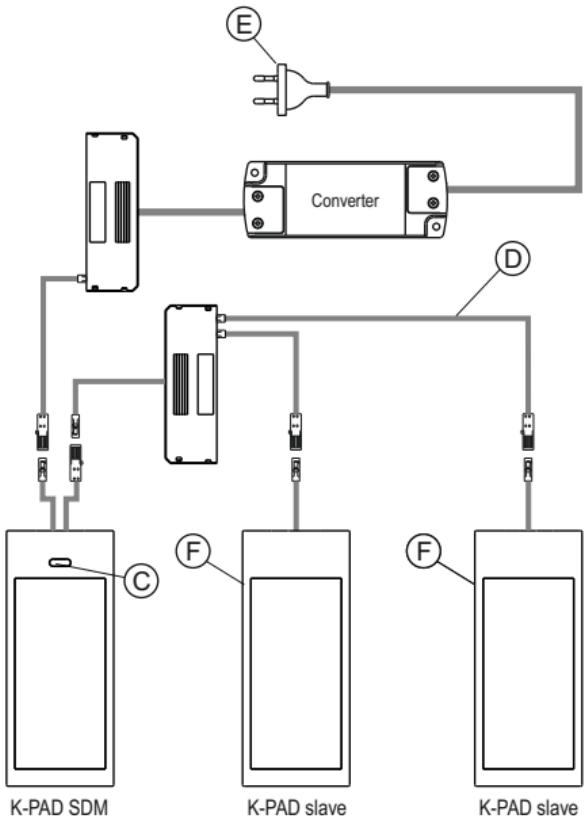

Fig 4
- **SDM:** (fig.4) (TOUCH SENSOR con funzione master)
L'uscita (output cable) del **K-PAD SDM** può pilotare un carico di max. 60W @ 24Vdc incluso l'assorbimento dell'apparecchio (fig.4).
- **SDM:** (fig.4) (TOUCH SENSOR master)
The output cable of **K-PAD SDM** can handle a load of max. 60W @ 24VDC included the absorption of the device figure 4.
The **K-PAD SLAVE** (F) is a switch-free spotlight, then it must be turned on via a remote switch that can be placed on the **K-PAD SDM** (wired in the **MASTER** version) as shown in figure 4 or it can be assigned to a separate switch connected to the primary of the converter as shown in figure 3, or to a remote socket where to connect the converter.
- **SDM:** (Abb.4) (TOUCH SENSOR Master)